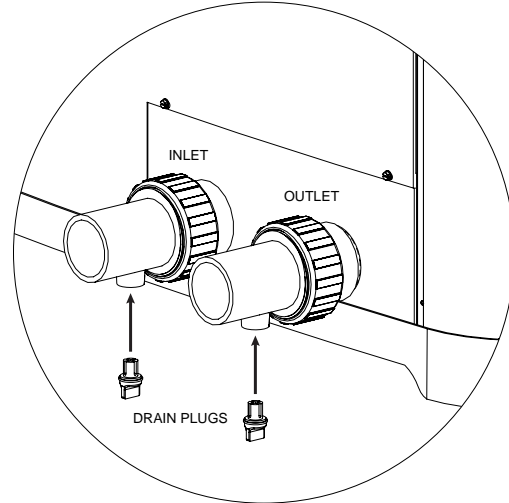

Figure 59. Drain Plug Locations
2. With the pool pump OFF, close the external shut-off valves and remove the drain plugs located in the inlet and outlet water unions to allow water to drain. See Figure 59.